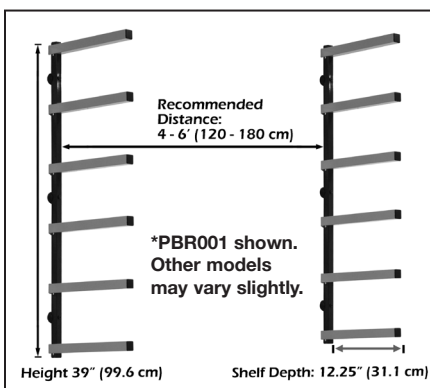

Figure 3
3. Installing to drywall or other paneled wall sheeting: Locating a solid structural support for your Bora Portamate Wood Rack is very important. Ensure that you are securely contacting the center of the wall studs. Distance between the vertical bars is optional. The recommended distance to support the designed weight capacity is **4 – 6 ft. (120 - 180 cm)**. For longer material or greater weight, multiple wood racks can be used. Figure 3. The assembled Wood Rack is 1-5/8" (41mm) thick so a suitable length of fastener is 3" (76mm) and 1/4" (6mm) diameter.